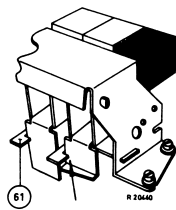

Fig. 51
- When the winding or rewinding key is depressed, the recording, rapid stop and playback keys should be locked. This is ensured by the lock bracket 61, see fig. 51. This can be adjusted if necessary by bending somewhat the lips of lock bracket 61.